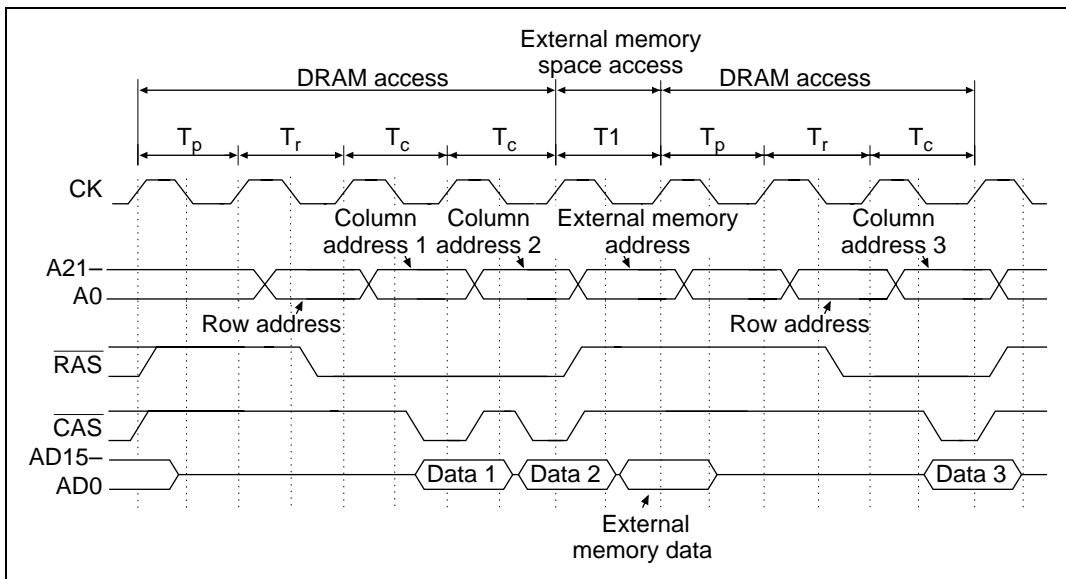

Figure 8.28 RAS Up Mode
- **RAS up mode:** When the RASD bit is cleared to 0, the $\overline{\text{RAS}}$ signal reverts to high whenever a DRAM access pauses for access to another space. Burst operation continues only while DRAM access is continuous. Figure 8.28 shows the timing when an external memory space access occurs during burst operation in RAS up mode.